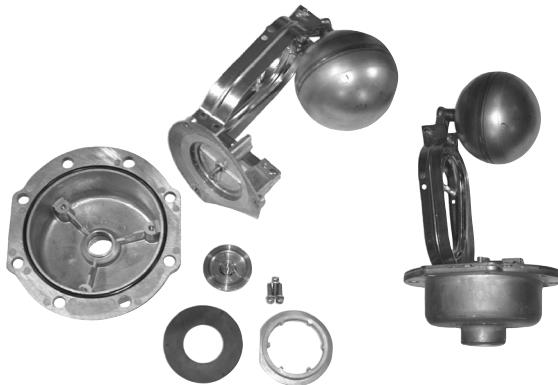

FIGURE 15
1. Remove the Strainer (see Fig. 15).